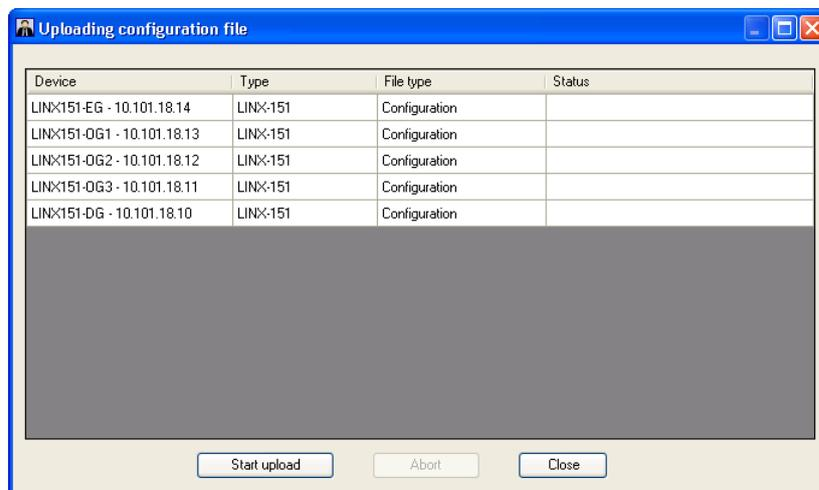

Figure 195: Upload Configuration File Dialog
3. The **Upload configuration file dialog** opens as shown in Figure 195. This dialog displays a list of devices and the configuration files which will be uploaded. To start the upload, press the **Start upload** button.